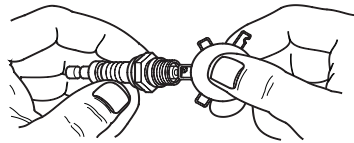

Figure 4-3. Spark Plug Gap
- See Figure 4-3. Inspect electrode gap (B) with wire feeler gauge and replace spark plug if gap (A) is not within 0.028 - 0.031 in (0.70 - 0.80 mm).